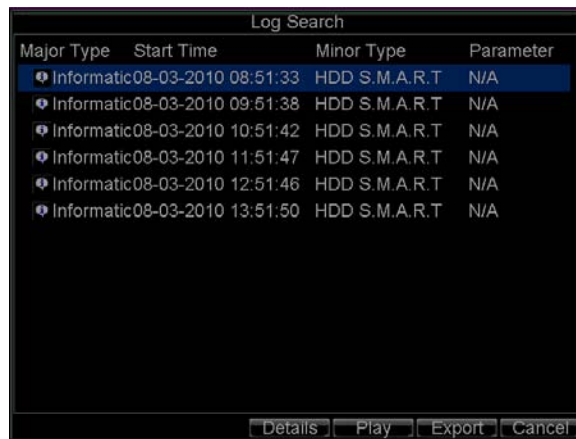

Figure 9. Log Search Results
7. Click the *Search* button to begin log search. A list of results, similar to that of Figure 9, will be returned.